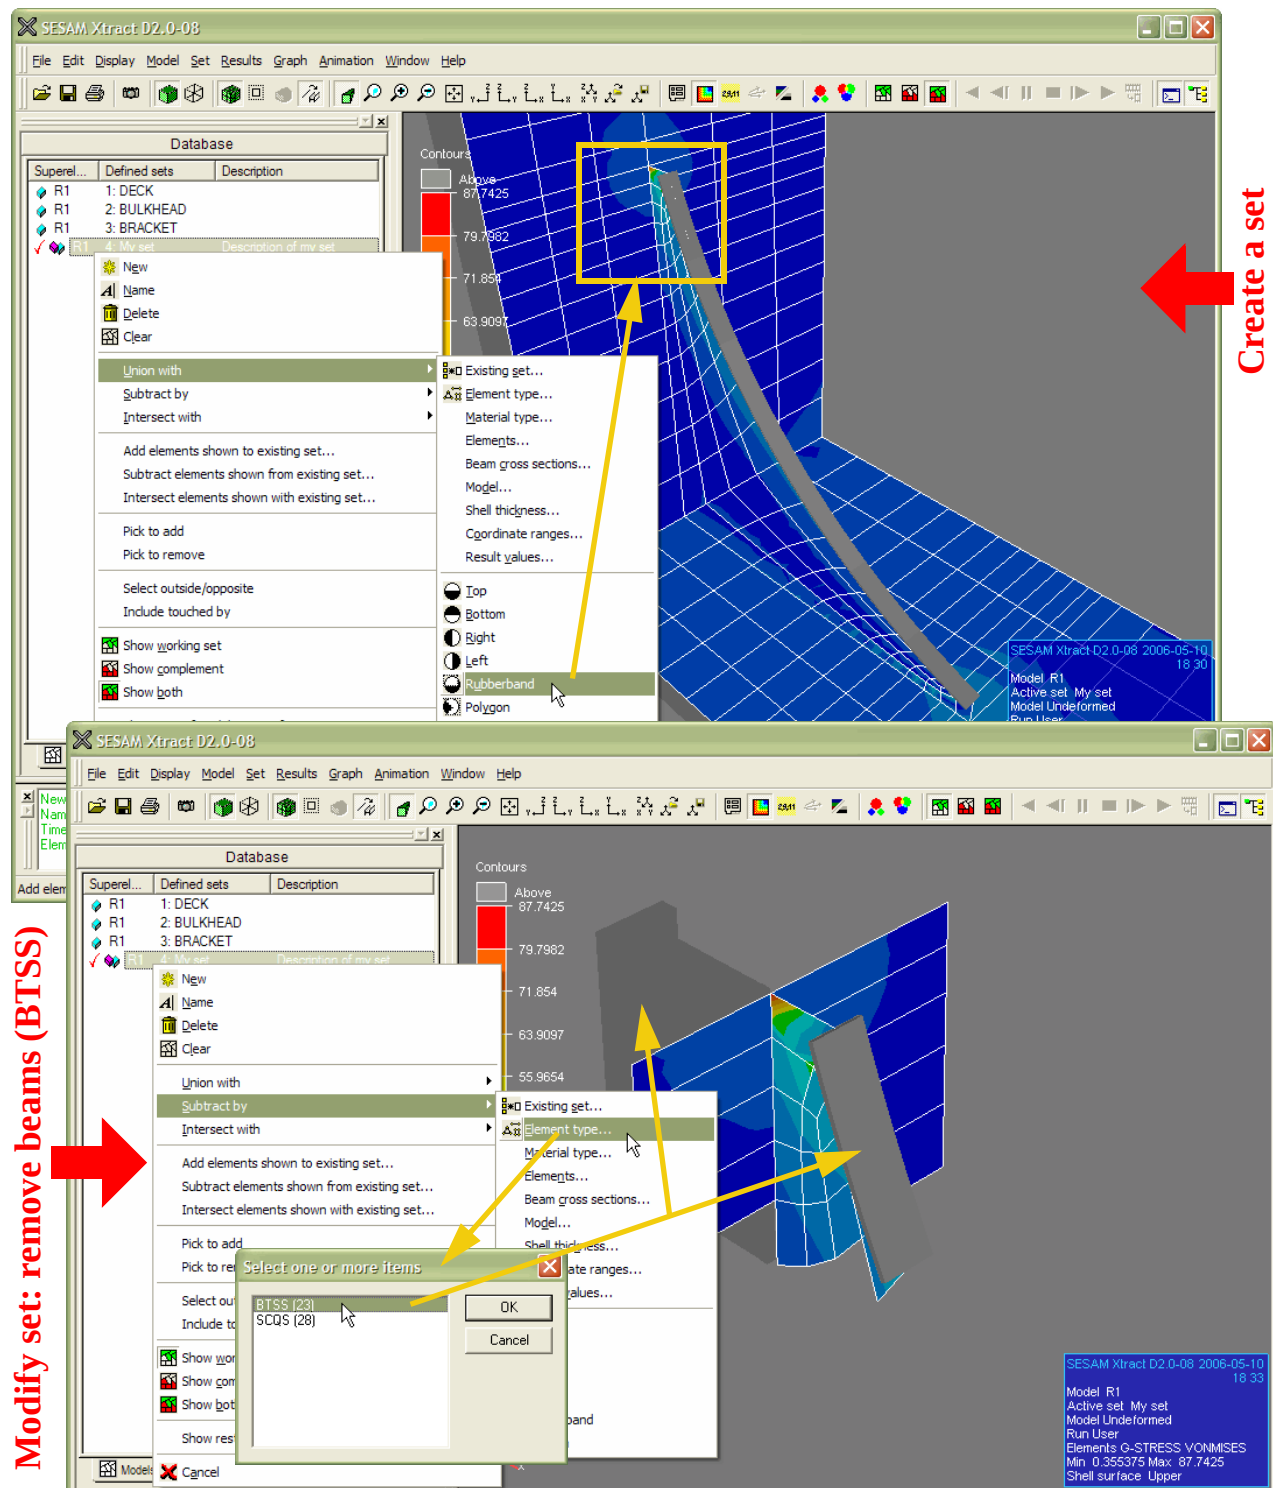

Figure 3.35 Create (Union with) and modify (Subtract by) a set
The upper part of Figure 3.35 illustrates how the rubberband option is used to create a set containing elements in the vicinity of the upper part of the bracket.
The lower part of Figure 3.35 is the result of the following action: Set > Subtract by > Element type. In the Select list item dialog appearing you may select item BTSS (23) (the name of the 3 node beam element) to subtract beam elements leaving only 8 node shell elements (SCQS (28)) in the set.